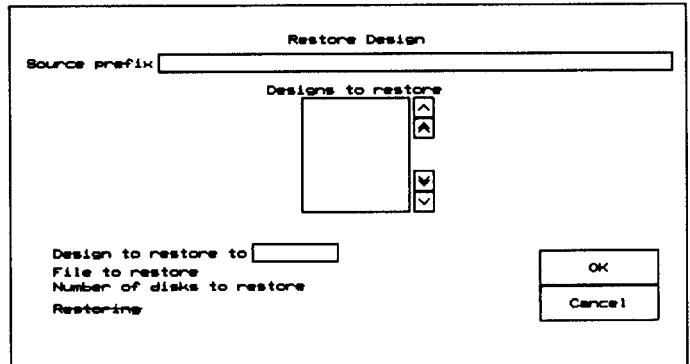

Figure 2-15. *Restore Design* window.
1. Select **Restore Design**. The window shown in figure 2-15 displays.